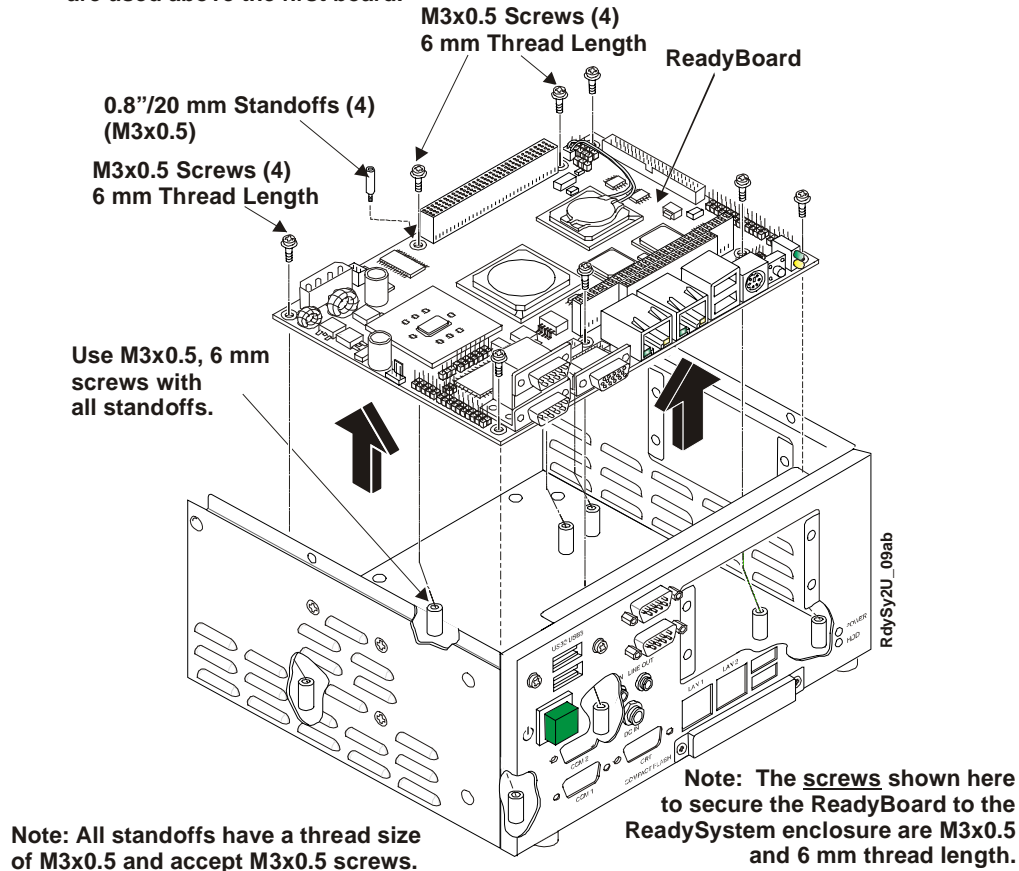

Figure 2-9. Installing ReadyBoard into Enclosure
15. Insert four M3x0.5, 6 mm screws with washers into the standoffs on the floor of the enclosure at the four corners of the board. See Figure 2-9.
16. If you are putting PC/104 expansion board(s) onto the ReadyBoard, insert the four 0.8" (20 mm) standoffs provided with the ReadyBoard at the four PC/104 mounting locations. See Figure 2-9.
- ◆ Insert four M3x0.5, 6 mm screws with washers at the four PC/104 mounting locations on the first expansion board, if you are not installing a second PC/104 expansion board. See Figure 2-9.
- ◆ If you are putting a second PC/104 expansion board onto the ReadyBoard, insert the four 0.6" (15 mm) standoffs on the first PC/104 expansion board provided with the expansion board at the four PC/104 mounting locations. See Figure 2-9.
17. If you are not putting any PC/104 board(s) onto the ReadyBoard, insert four M3x0.5, 6 mm screws with washers at the four PC/104 mounting locations on the ReadyBoard. See Figure 2-9.